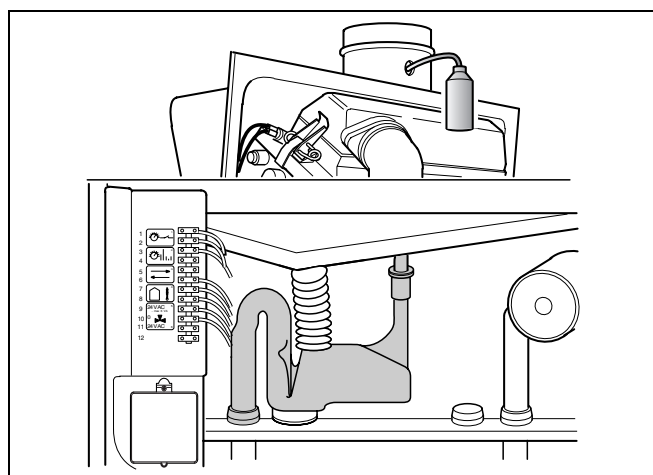

fig. 51 Checking the operation of the condensate water bypass
- Remove and clean the syphon (fig. 51).
- Inject water (e.g. using a spray bottle) into the left-hand flue gas measuring point (fig. 51) and check that the condensate water bypass is not obstructed.